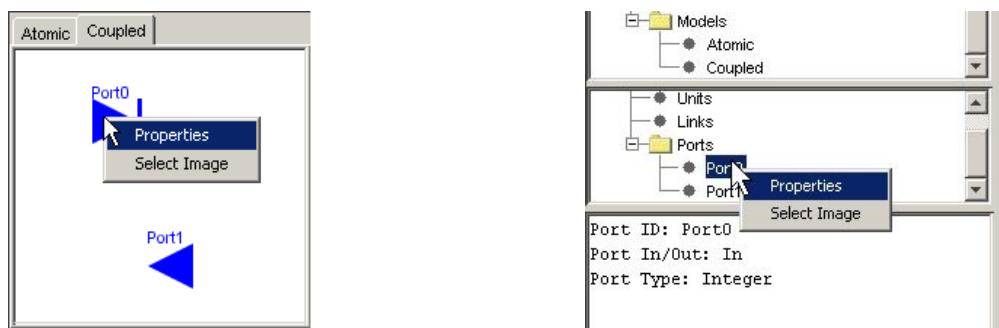

Figure 158: Changing the name of the port
- 2b) In the Units Tree (the middle lateral panel), expand the Ports folder. Left double-click on the appropriate port. An alternative method is to right click on the appropriate port and select properties as seen in Figure 158.